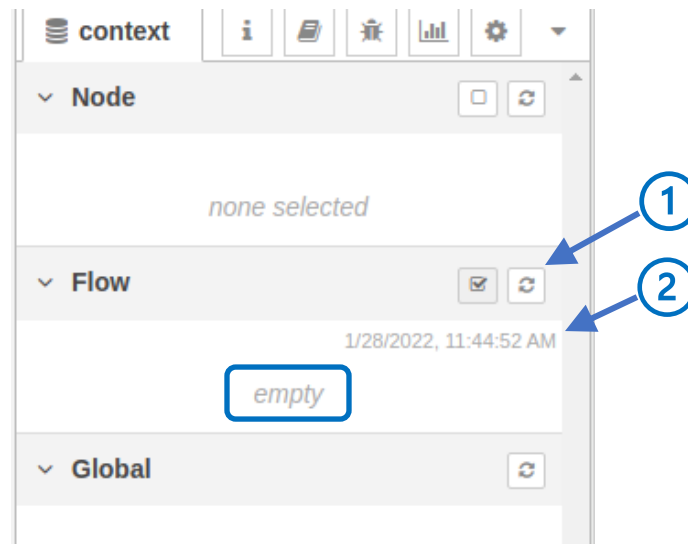
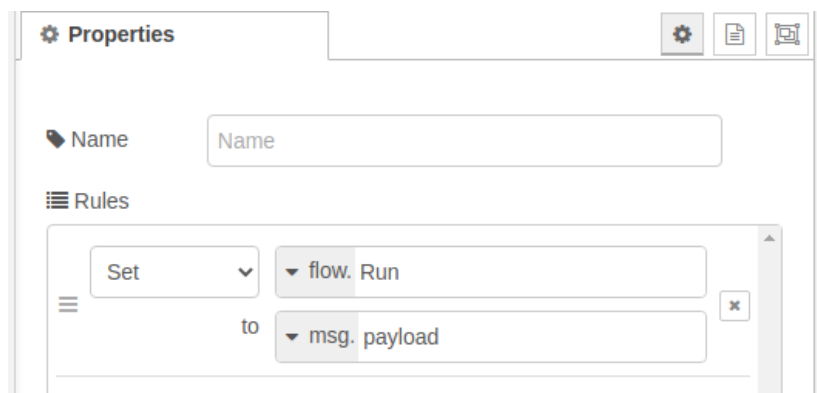

Figure 5-50: Context Data Example
Figure 5-52: Configuration of Change Node to Set Run Variable
Now open the Context Data tab in the side bar and open the Flow dropdown (see Figure 5-50). Click the refresh icon ① in that figure. Notice that the Flow dropdown is still empty even though you have mentioned the variable “Run” in your “set Flow.Run” node ( Figure 5-52, above). You might be asking yourself, “What’s going on here?” The answer is that in Node-RED a context data variable does not spring into existence merely because you mention it in some node or other in your flow. Rather it will only become real the first time you assign a value to it.